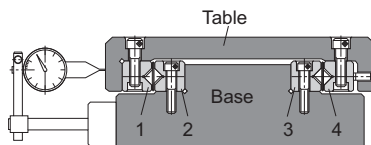

Fig.1 Installation of the Cross Roller Guide
(3) Place the base and the tables as shown in Fig.1, and then insert the roller cage from the end. If the cage does not enter because there is no clearance, slide rail 4 toward the adjustment bolt first, and then insert the cage again.
(4) Place a dial gauge as shown in Fig.1. Then, lightly screw all adjustment bolts evenly until the clearance is almost eliminated while gently pressing the table sideways.
(5) Attach the stopper to the rail end.
(6) Slide the table and adjust the cage position so as to achieve the required stroke.